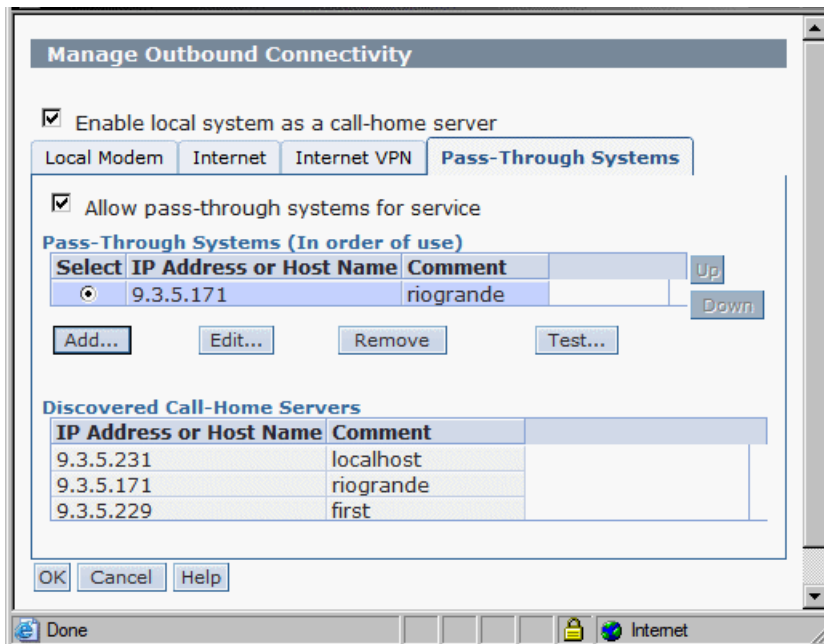

Figure 12-31 Add servers for pass-through access, results
4. If your selection is successful, you receive a results window similar to that shown in Figure 12-31. The system that you entered is listed in the area labeled Pass-Through Systems.